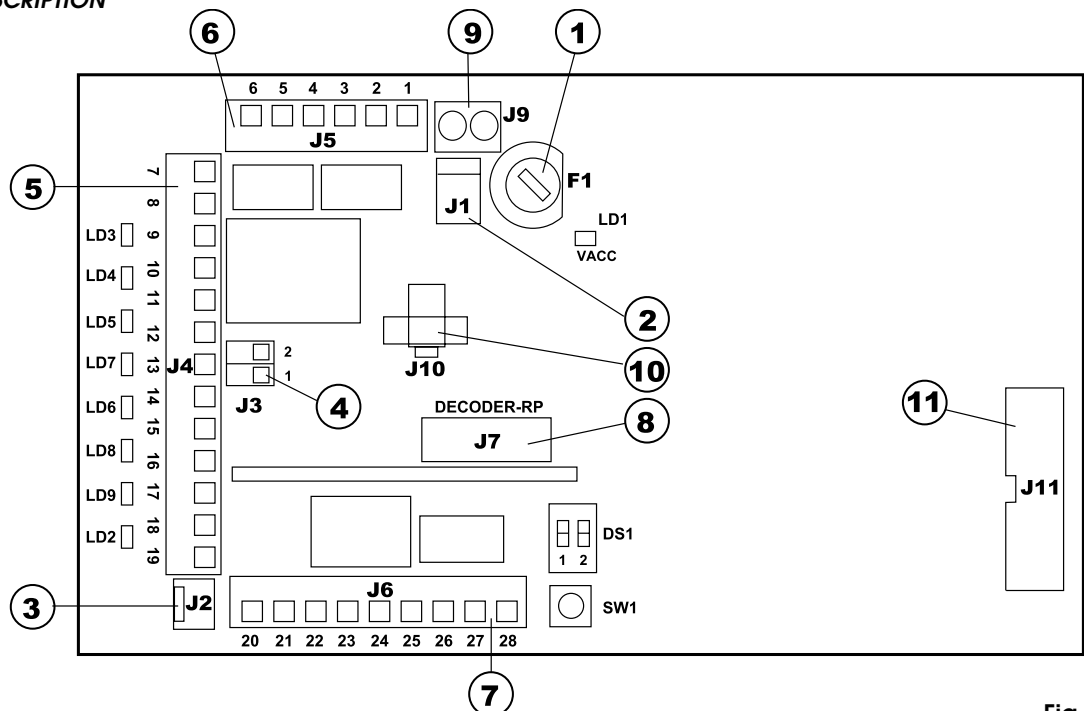

Fig. 10
① FUSE F1 4AT/230Vac - 5x20
② J1 CONNECTOR Transformer Secondary winding - fig. 10
③ J2 CONNECTOR